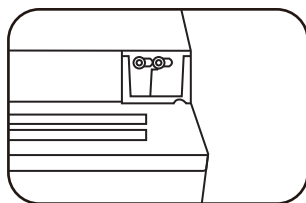

fig 3.4.3
2. Use a hexagonal screwdriver to remove the two screws connecting the door, as shown in the **figure 3.4.3** (be careful not to lose the metal anti-slip washers in between).